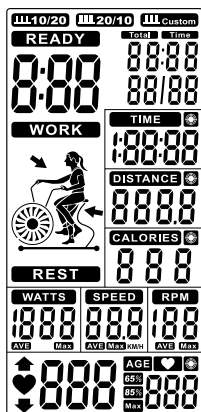
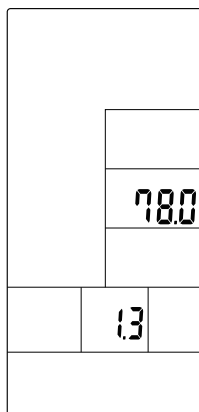
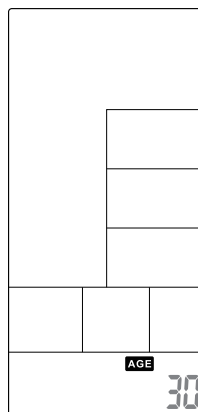

Figure 1
Figure 2
Figure 3
1. When POWER ON, LCD will full display 2s (Figure 1) with long beep sound, then display wheel diameter 1s in DIST area (Figure 2). Then enter into AGE setting mode, the AGE flashing to be set (Figure 3). Press the UP/DOWN to set age and press ENTER to confirm then go to Standby mode.